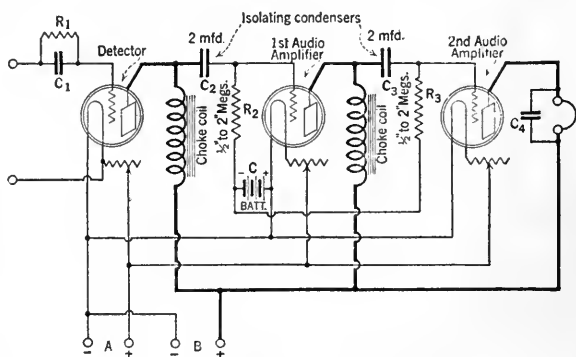

FIG. 5
**F**OR those who wish to experiment with choke coil audio amplification, the circuit in Fig. 5 is especially interesting.